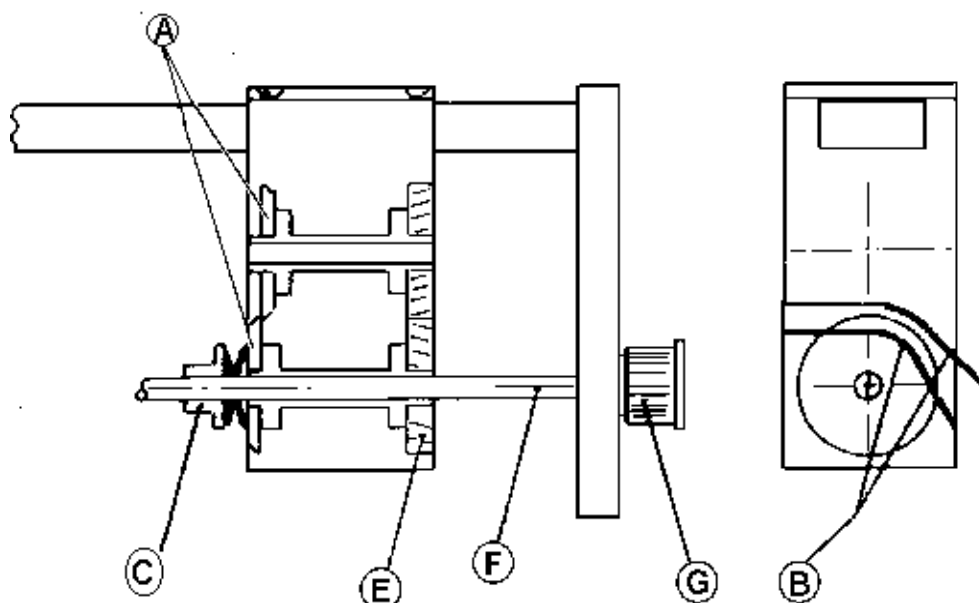
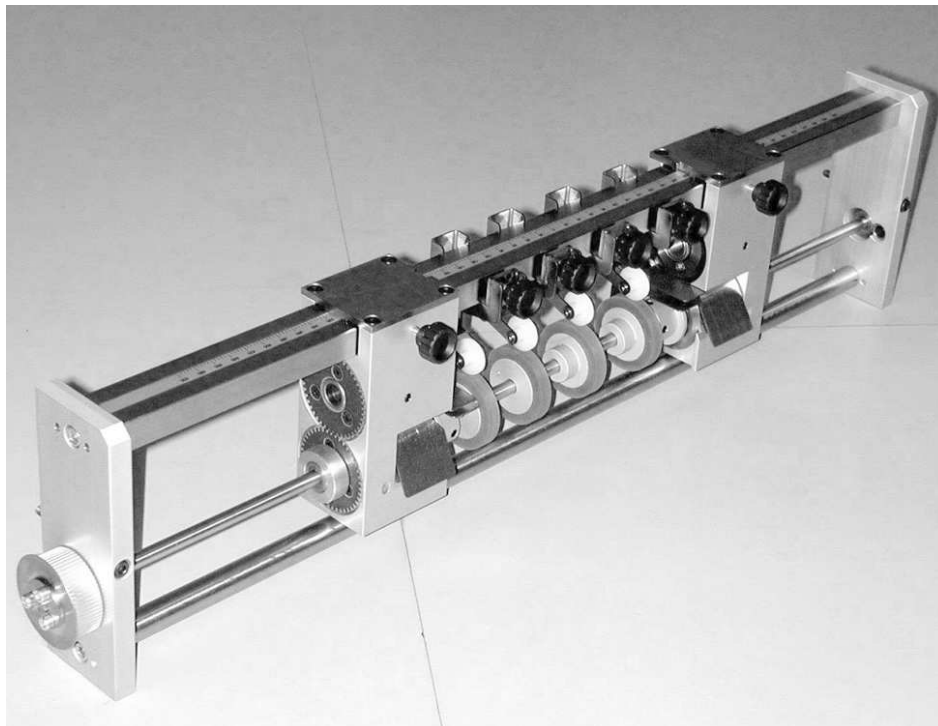

Fig. 8
Fig. 9
The cartridge TC 2002 (fig.9) has two couples of circular knives, Fig.8 (A), for trimming one the left and one the right side of the paper module.